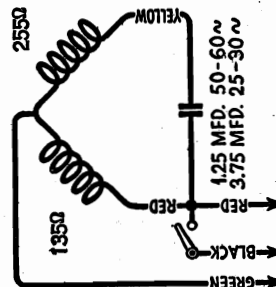
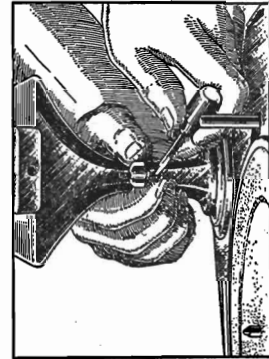

Figure 1—Schematic Diagram
Figure 2—Adjusting height of tone arm
A reference to the R-50 and R-55 Service Notes will give the details of any service work necessary in conjunction with the receiver and amplifier assemblies. Figure 1 shows the schematic wiring diagram and Figure 2 the assembly wiring. A reference to the Service Notes on the RCA Victor Record changing mechanism will give any details of service work in conjunction with this unit.
The RCA Victor Automatic Record Changing Mechanism is used in RCA Victor Models RAE-26, RAE-59 and RAE-79. Except for the finish of exposed parts, these units are identical. This mechanism is of simple, fool-proof design and will perform efficiently with a minimum of service requirements. Features of this mechanism are; continuous playing of one side of ten 10-inch records, operation at either 33 $\frac{1}{3}$ or 78 R.P.M. for playing standard or Program Transcription records manually or automatically, a special clutch to prevent jamming in case of failure of a part and a heavy duty motor operating at synchronous speed thereby eliminating any need for regulating devices. A general view of the mechanism is shown on the cover page. Figure 1 shows the schematic wiring diagram.
5. Place a Home Recording needle into the pickup as far as it will go. Then lower the pickup on the side of the turntable. The needle should extend from $\frac{1}{8}$ " to $\frac{1}{4}$ " below the top of the metal edge of the turntable. If it does not, an adjustment can be made by means of a screw located under the tone arm. Lifting the arm provides accessibility to the screw. See Figure 2.